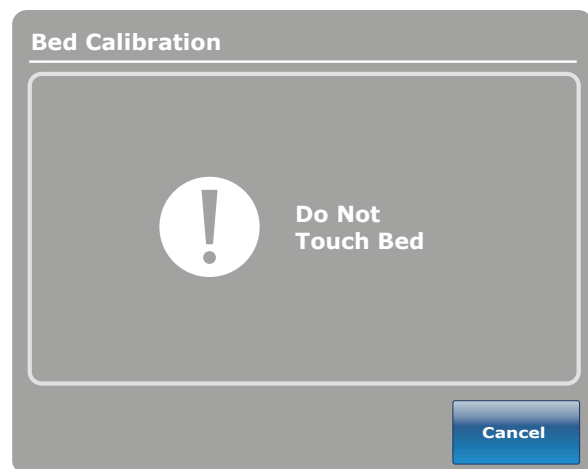

Figure 12: Do Not Touch Bed Screen
12. Press the **Next** button when done. The “Do Not Touch Bed” screen will appear as shown in Figure 12.